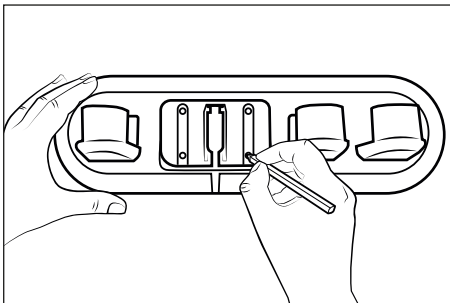

Fig. 5
- 3) Use the accessories holder **17** to mark the four drill holes on the wall (see Fig. 5).